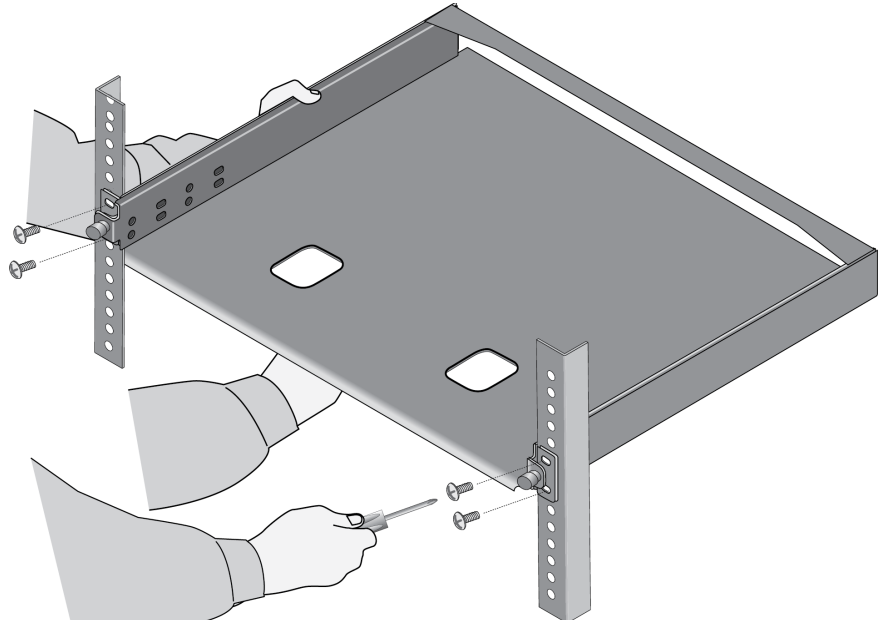

Figure 43. Installing the RKMT-J15 Bracket in the Equipment Rack
1. Have another person hold the RKMT-J15 Bracket at the desired location in the equipment rack while you secure it using four standard equipment rack screws (not provided). Refer to Figure 43.